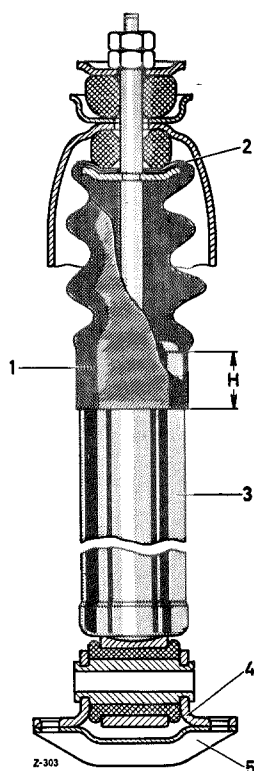

Fig. 32 — 1/3
If the vehicle is used in areas where extreme dust conditions prevail, a fabric dust bag (1) can be fitted at both the front and the rear shock-absorbers as a protection against dust and dirt penetration (see Fig. 32 — 1/3).